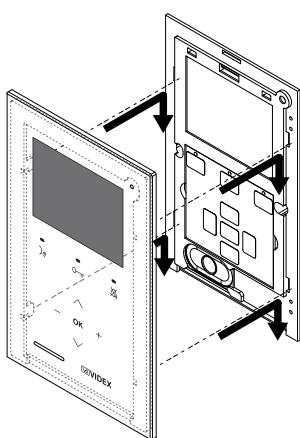
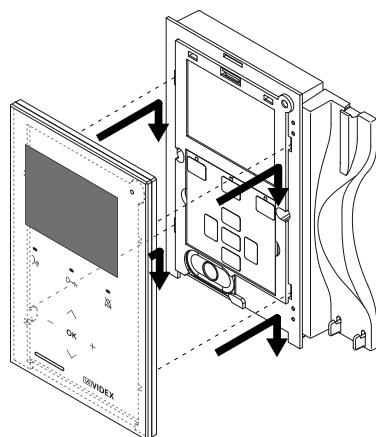
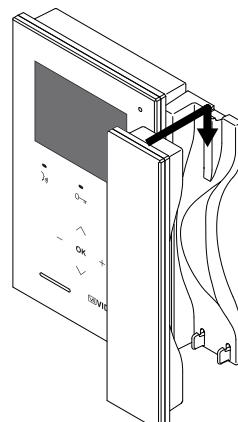

Fig. 4
Fig. 4a
Fig. 4b
4. Once the videophone is fixed to the flush mounting box, place the front plate against the videophone by inserting the hooks in the corresponding openings and hook the plate by pushing it down as shown in **Fig. 4**.
4. Once the videophone is fixed to the wall, place the front plate against the videophone by inserting the hooks in the corresponding openings and hook the plate by pushing it down as shown in **Fig. 4a** and hang the handset as shown in **Fig. 4b**.
- Remove the front plate doing the contrary of what is shown in **Fig. 4** and **Fig. 4a**;
- Hang up the front plate as shown in picture **Fig. 4** and **Fig. 4a**; before the display turns off;